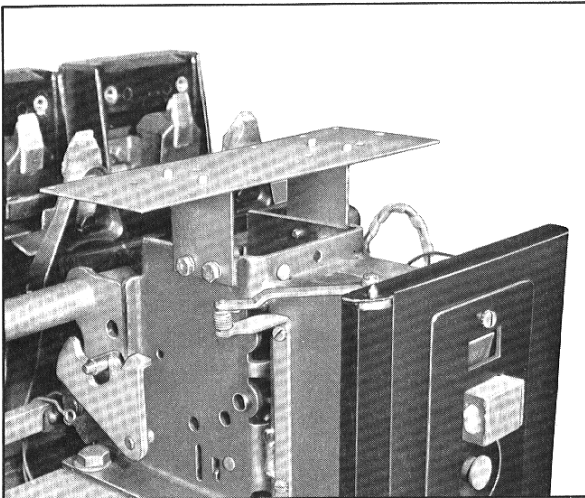

Fig. 31 Amptector Mounting Bracket
5. The amptector "mounting assembly" consists of a steel plate with two (2) .203 dia. holes, and two (2) 25-20 tapped holes, and two (2) "L" brackets welded to it and 4" apart. Each "L" bracket has two .281 dia. holes, which line up with the newly .25-20 tapped holes when the assembly is fitted onto the breaker, Fig. 31, secure the assembly to the breaker mechanism, with the .203 dia. holes in plate towards the arc chutes, use .25-20 x .50 bolts, lock and flat washers. **Do not use longer bolts, as they will interfere with the mechanism linkages.**